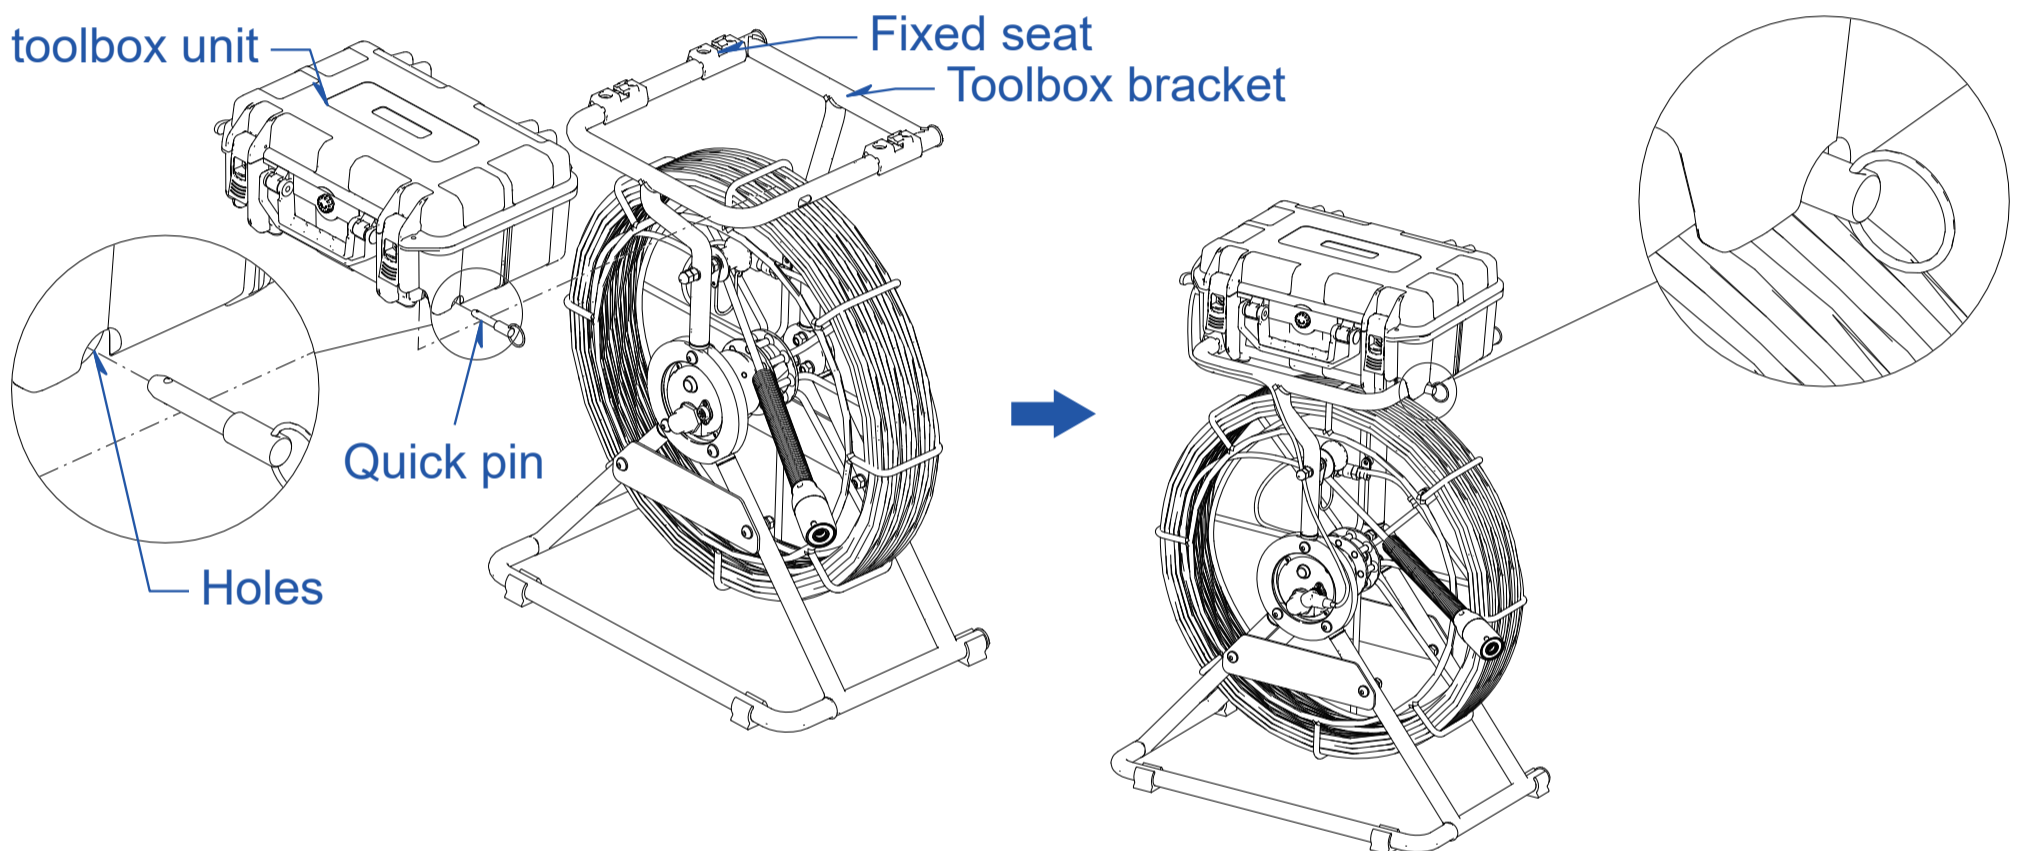

Figure 17. Install toolbox unit
3. If you chose the toolbox unit, please install the toolbox unit (Figure 17)